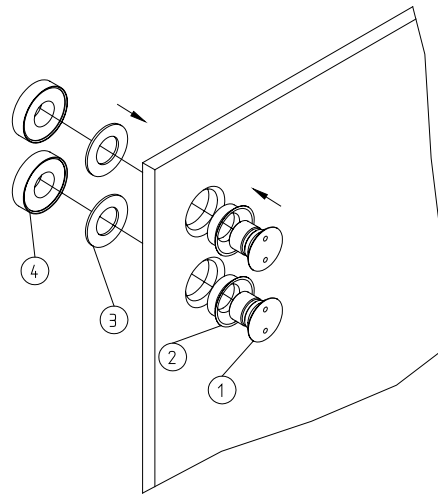

Fig. 2A
2. Mounting the glass panel fittings (Fig. 2A):